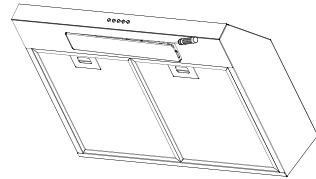

Fig 14
- Kick off the LED lamps by using the flat screw driver(Fig 14).